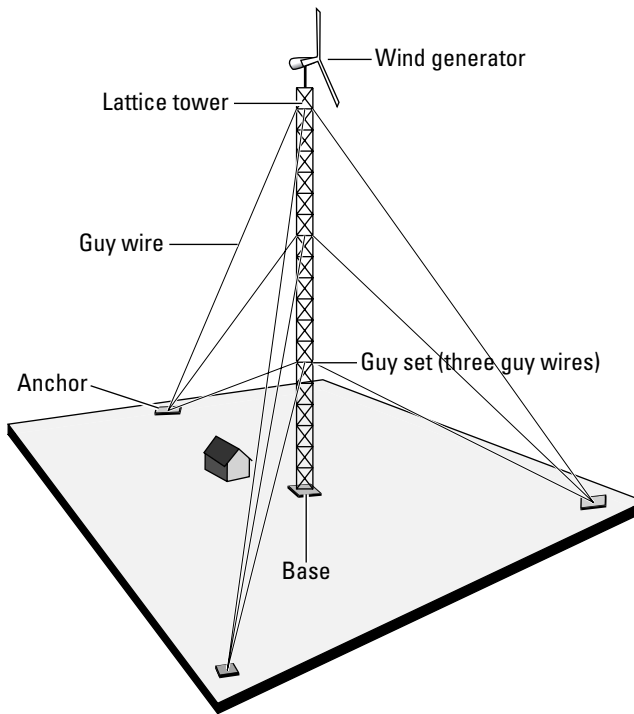

Figure 14-3:
Fixed guyed towers are very versatile because you can use them on a variety of site types and adapt them for a wide range of heights. Guy wires are attached at intervals to keep the usually lattice (but occasionally tubular) tower upright — without them, the tower would fall (see Figure 14-3). These towers don't tilt up and down. Because they're widely used, they're easily available, as is expertise for their design and installation.
- ✓ **Lattice:** Lattice towers are far and away the most common. These are the towers you see at your local radio station or in your local amateur radio enthusiast's backyard. They come in 10- or 20-foot sections, and they have either tubular or solid steel legs. They're guyed on three sides (at 120-degree intervals around the tower) and have guy wires somewhere between every 30 and 80 feet up the tower, depending on the design. (Figure 14-3 depicts a lattice tower.)